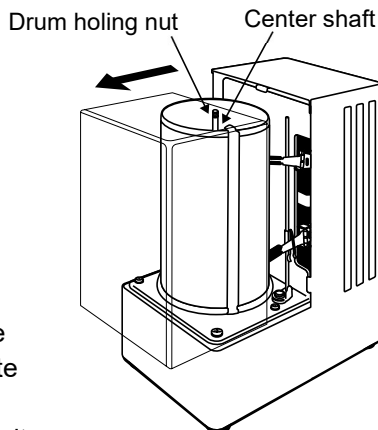

Figure 1
1. Remove the acrylic cover by sliding it in the transverse direction. (Figure 1)